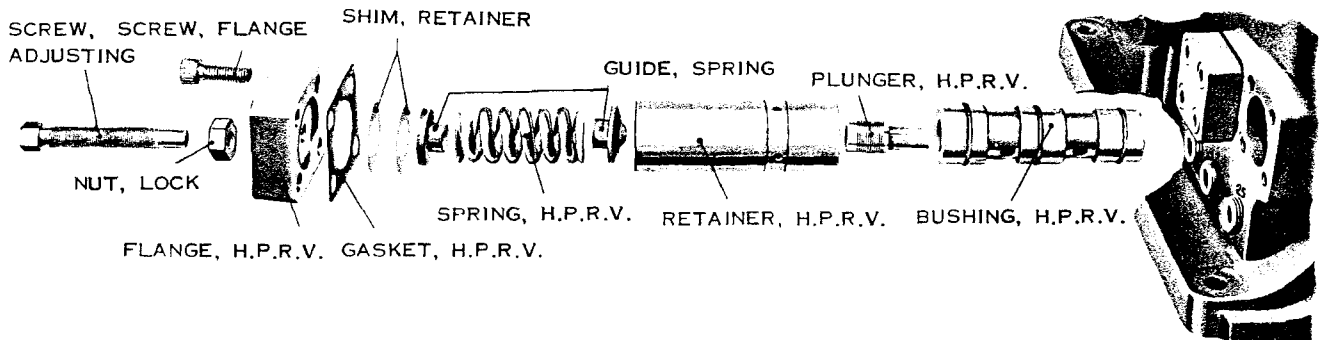

Figure 6. High Pressure Relief Valve, Assembly, Exploded View
F. HIGH PRESSURE RELIEF VALVE. (See Fig. 6 and Section "F-F" in Fig. 13.)
1. GENERAL. Relief valves can be removed without draining system or removing pump from reservoir. Before removing screws (38A) and flange (38), measure location of adjusting screw (40) so that the same setting will be obtained when valve is reassembled. All parts for one relief valve must be kept together and assembled in same pump on same side.
2. PLUNGER REMOVAL. Loosen nut (40A) about one turn (note amount loosened) and turn screw (40) counter-clockwise until spring tension is released. Remove screws (38A), flange (38), shims (45), gasket (39), seat (41), spring (42), seat (43), retainer (44), and plunger (34). Examine plunger seat and relap if necessary. When lapping seat, retain the close fit between the smaller plunger diameter and bushing (35).
3. BUSHING REMOVAL. Avoid removing bushing (35). If replacement is necessary, remove screws (38A), flange (47), and pipe plug (48). Insert a rod and drive bushing (35) out.
4. ASSEMBLY. Reassemble parts in reverse order of that given for disassembly. In reassembling bushing (35), tap it lightly in place. Be sure plunger (34) is free in bushing (35). Insert sufficient shims (45) to hold retainer (44) tight against bushing (35) and also prevent fluid leakage at gasket (39). Turn in screw (40) to previous position. Tighten nut (40A).